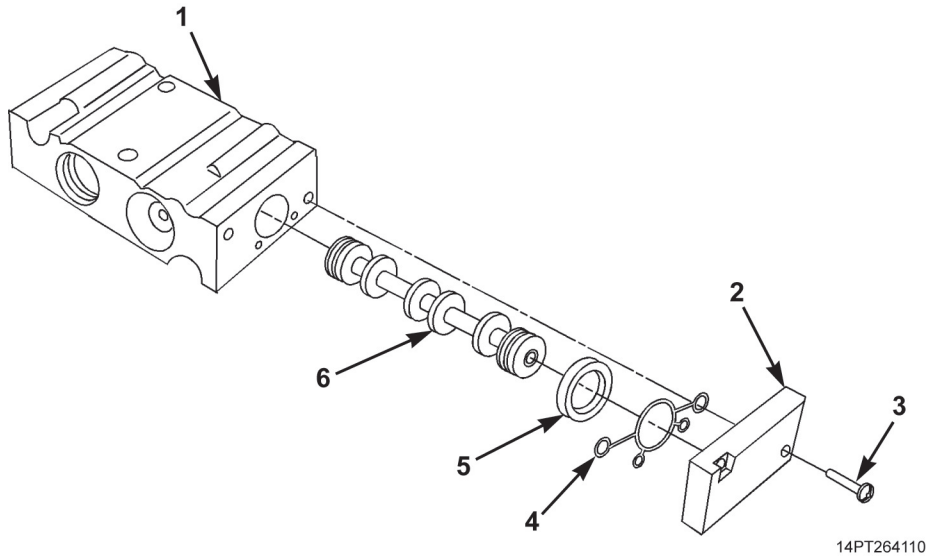

Figure 5. Valve Body End Cap and Valve Disassembly.
12. Remove two screws (Figure 5, Item 3) and end cap (Figure 5, Item 2) from valve body (Figure 5, Item 1).
13. Remove gasket (Figure 5, Item 4) and plastic insert (Figure 5, Item 5) from end cap (Figure 5, Item 2).
14. Remove valve (Figure 5, Item 6) from valve body (Figure 5, Item 1).